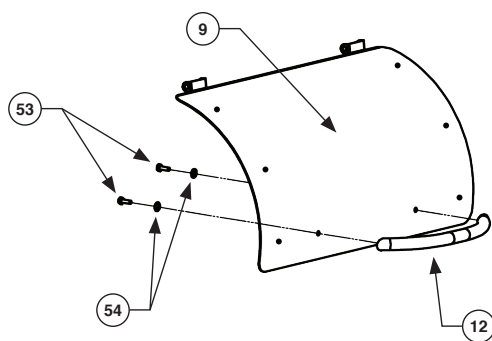

FIG 7
Penetrate ¼-20\*½ Hexagon Bolt (53) through (Ø18\*Ø6.5\*2.0mm) Washer (54) and Lid (9) directly to the Handle (12) and tighten up. Do not overtighten the bolt. As shown in FIG 7.